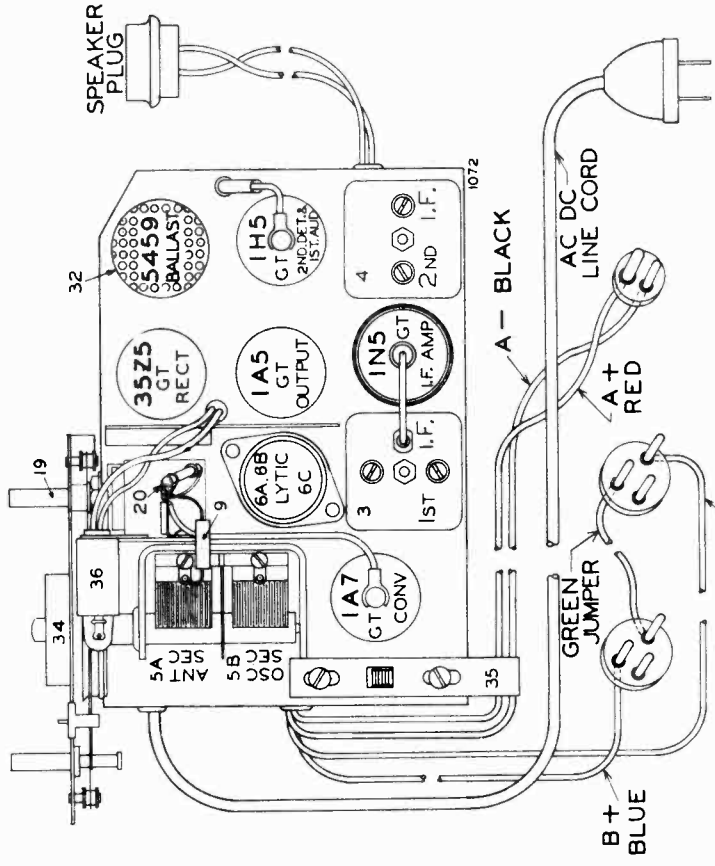

FIG. 1 TUBE LAYOUT PORTABLE RADIO #985651
- e. Adjust the trimmers on the 1st and 2nd I.F. transformers (Illus. No. 3 and No. 4, Fig. 1) carefully for maximum output.
- d. Adjust the trimmer for the oscillator section of the condenser gang (Illus. No. 5B, Fig. 1) for maximum output. It is very important that this frequency be set accurately as a slight mis-setting will cause the receiver to be out of track over the entire high frequency end of the dial.
- f. Adjust the trimmer on the condenser gang (Illus. No. 5A, Fig. 1) for maximum output.